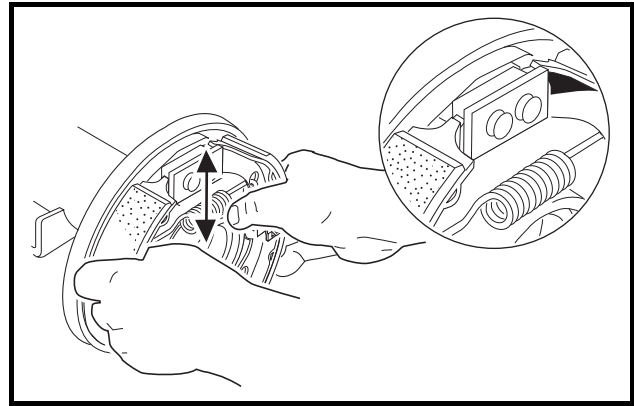

Figure 6-16 Check Shoe Positions
5. After the shoes are installed, move them together up and down and side to side to make sure that they will easily slide approximately 1/4 to 3/8 inch (6.3 to 9.5 mm) without binding (**Figure 6-16, Page 6-7**).